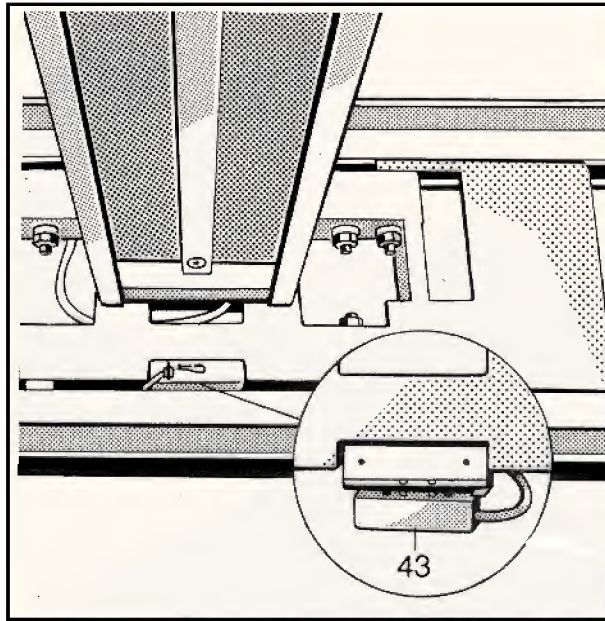

Fig. 29
- \* Switch on unit, check function of brake (Fig. 29/item 43). Adjust if necessary. To do so, loosen lock nut, turn threaded pin accordingly and lock again.